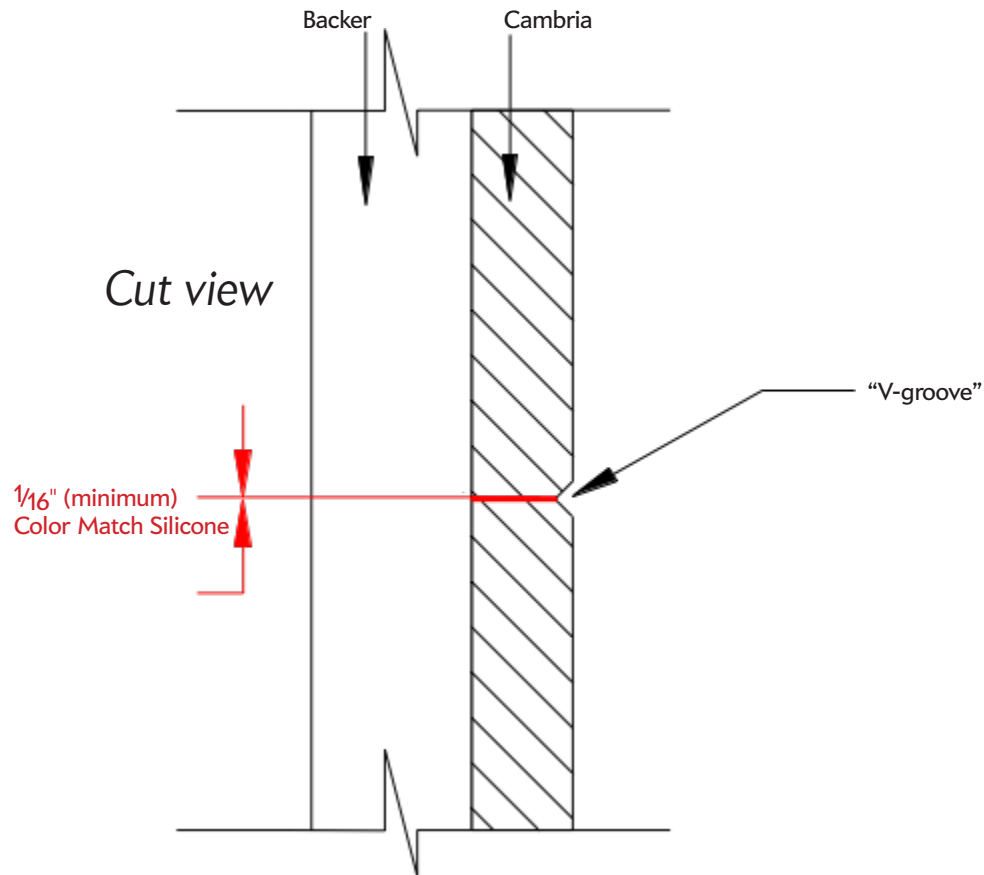

Figure 7
18. The edge of the seam of adjoining pieces can have a polished eased edge applied to create a "V-groove" to further accent the seam or as a design aesthetic for the installed Cambria product. See **Figure 7**.